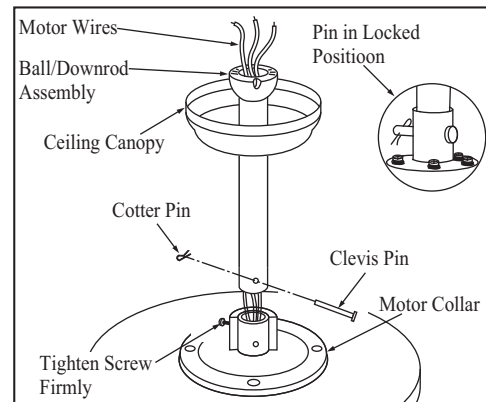

Figure 6
2. Route the wires through the canopy and then through the ball/downrod assembly. (Figure 6)
4. Align the holes at the bottom of the downrod with the holes in the coupling on top of the motor housing. (Figure 6) Carefully insert the clevis pin through the holes in the collar and downrod. Be careful not to jam the clevis pin against the wiring inside the downrod. Insert the cotter pin through the hole near the end of
the clevis pin until it snaps into its locked position, as noted in the circle inset of Fig. 6.
5. Tighten two set screws on top of the fan motor firmly. (Figure 6)